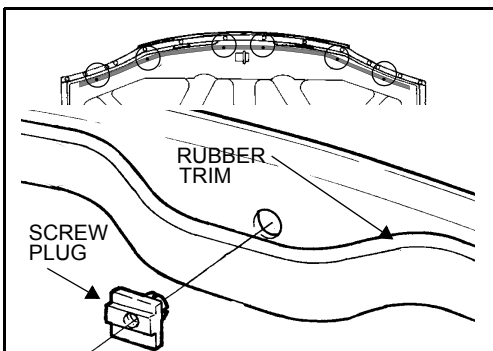

Figure 4.
4. Insert the screw plugs provided in the previously removed rubber trim retaining plug holes. Ensure screw plugs are underneath the rubber trim. See figure 4.